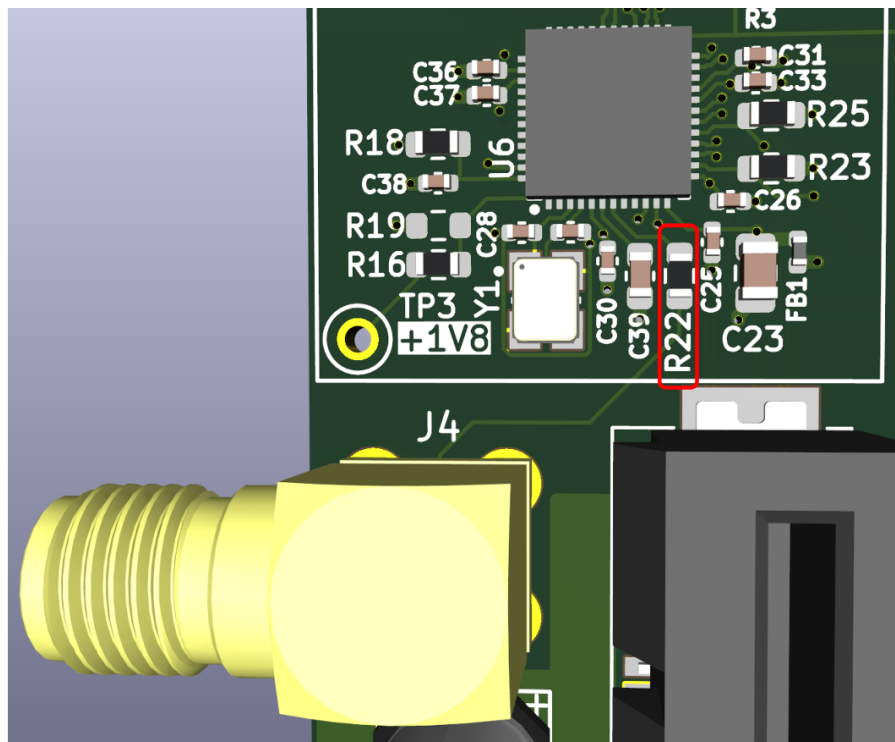

Figure 3: Location of Resistor R22 (25MHz Check)
2. **Step 3.2:** Locate **\*\*Resistor R22\*\*** (Series resistor for the SMA connector J4). See **Figure 3**.